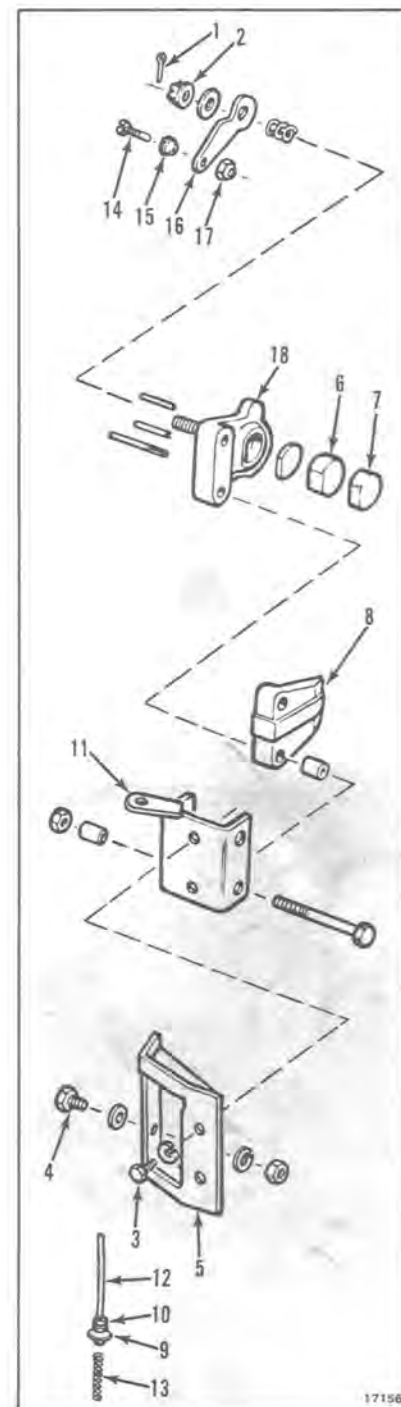

Figure 10-10
- a. Remove cotter pin (1) and loosen castellated brake adjustment nut (2). See Figure 10-10.
- b. Loosen brake body screws (3).
- c. Remove mounting screws (4) from brake bracket (5).
- a. Disassemble brake assembly as required, noting relative positions of components to assure correct reassembly (see Figure 10-10).
- b. Inspect brake pucks. If the free floating puck (6) is one half of its original 1/2" thickness, it should be replaced. When the fixed puck (7) is worn so that there is only 1/32" protruding from the carrier (8), it should be replaced. Use a contact cement to secure new puck to carrier.